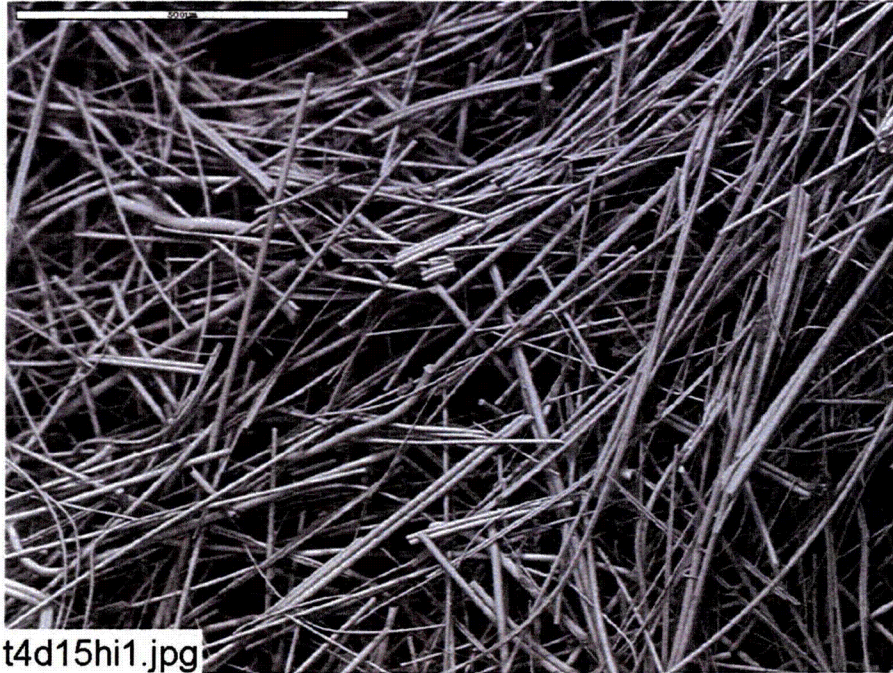

Figure B2-5. Environmental SEM image magnified 100 times for a Test #4, Day-15 interior high-flow fiberglass sample. (t4d15hi1.jpg)
- Figure B2-5. Environmental SEM image magnified 100 times for a Test #4, Day-15 interior high-flow fiberglass sample. (t4d15hi1.jpg) B2-6